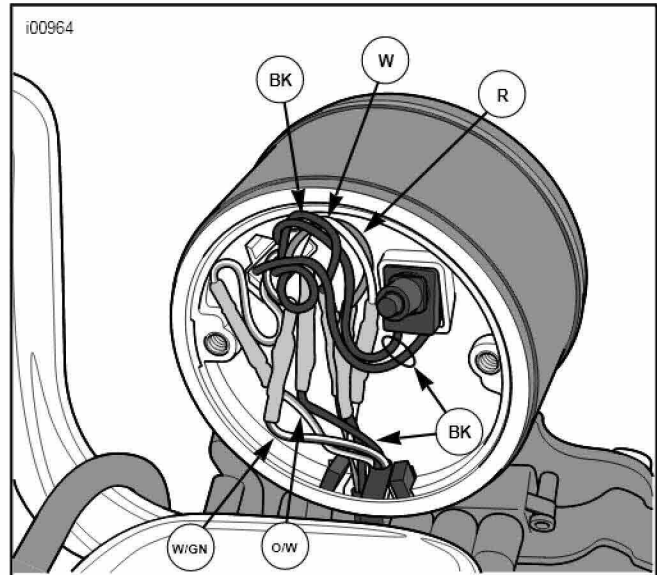

Figure 1. Splicing Replacement Speedometer Wires
6. See Figure 1. Place speedometer into housing.
8. See Figure 1. Position reset switch in squared boss on speedometer cover. Neatly tuck wire splices under back cover (spread splices so no binding occurs and splices don't press on back cover), align cover, and install back cover screws. Replace rubber boot on reset switch.